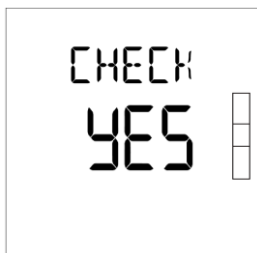

Fig 5.28
- Press power button to start the optical check, if the meter displays “Yes”, the meter is normal. If the meter displays “No”, it means that the meter is not functioning properly. (Ref Fig 5.28)